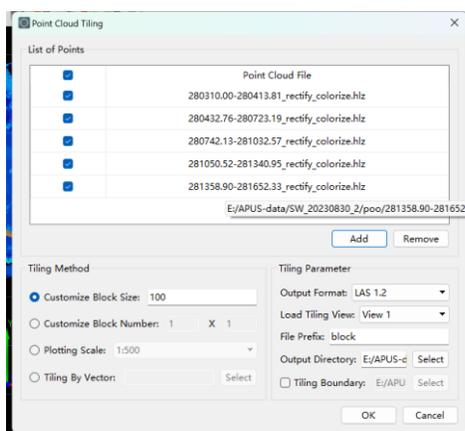

Figure 3-125 Point Cloud Tiling Settings
1. Click menu <Process> →<Point Cloud tiling> to open the dialog box (Figure 3-125). The window lists the point cloud files currently loaded by the software, check the files that need to be staged. When more than one point cloud file is selected, the software will first merge multiple point clouds and then perform the staging.